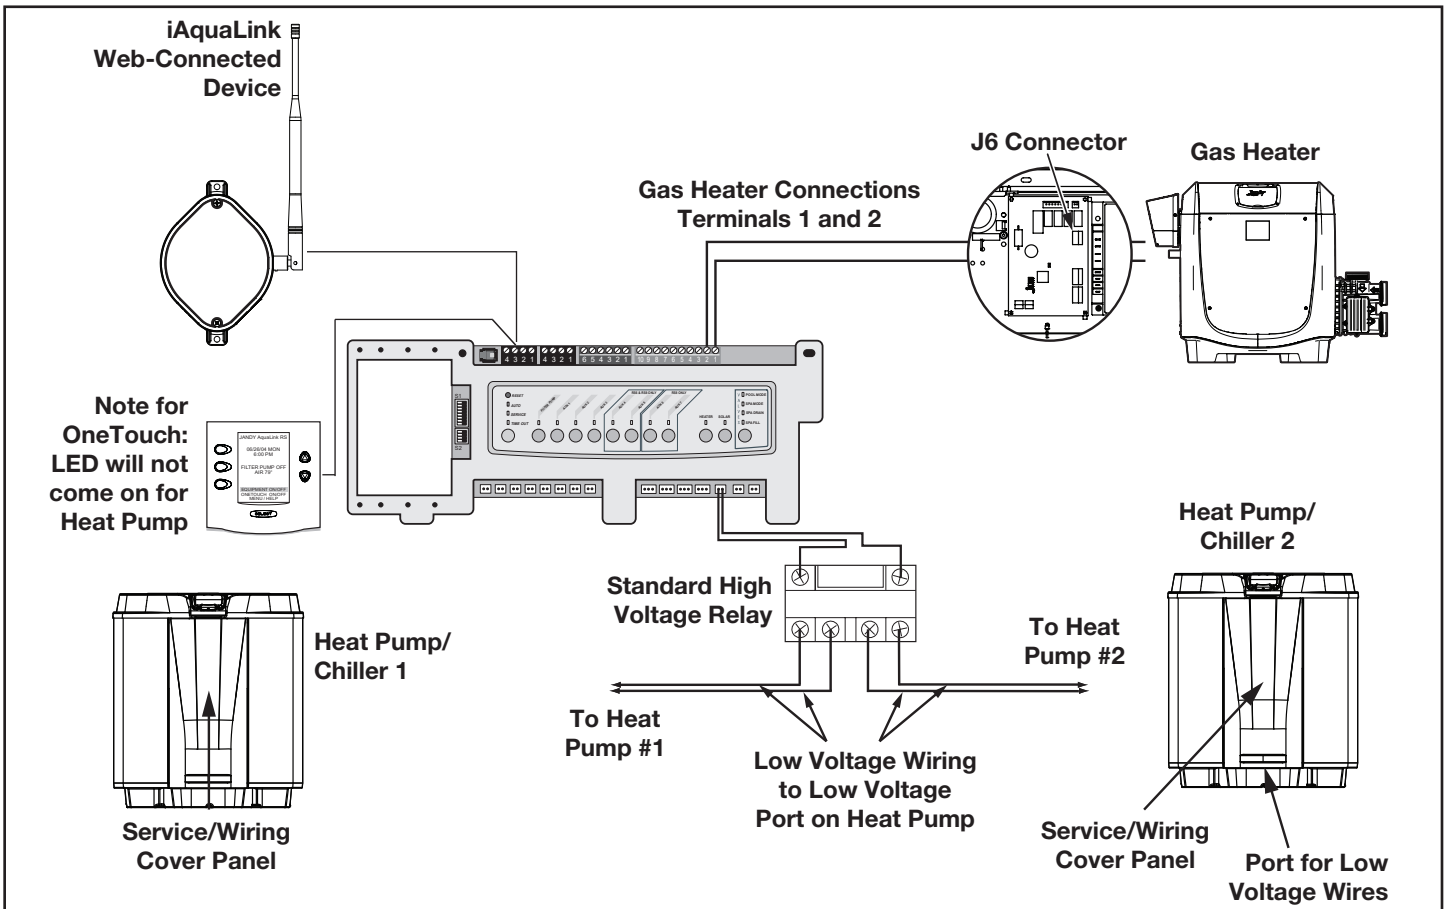

Figure 19. Heater and Heat Pump/Chiller Wiring
2. To run the wires from the heat pump control panel, remove the five (5) screws that attach the service/wiring cover panel to the heat pump. See Figure 19.